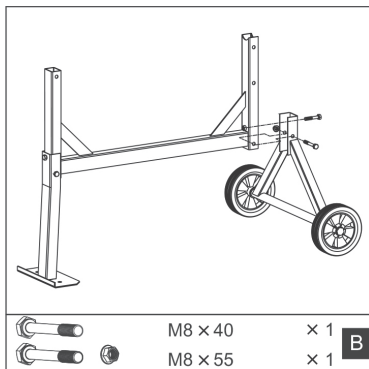

Fig.6
3. Assemble the wheel unit to the pre-assembled drum frame. Make sure that all screw connections are tightened. Use the accessories marked (B), Fig.6.